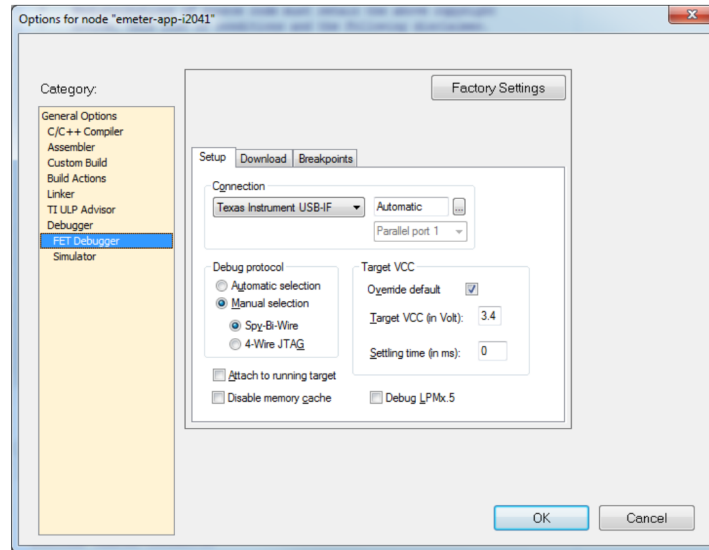

Figure 26. Debugger Options
6. Select FET Debugger on the left hand column of the select Setup tab. The EVM uses Spy-Bi-Wire for its code downloading and debugging. Check to make sure the options are as shown in Figure 26.